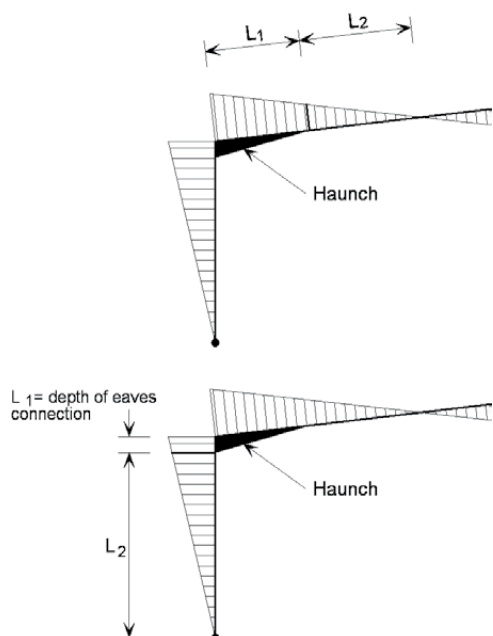

Figure 8: Lengths L_1 and L_2 used to check restraint member stiffness
- L_1 and L_2 are the distances each side of the plastic hinge to the eaves or points of contraflexure, as shown in Figure 8.
As an illustration, for a rafter (Figure 8), and a span of 35 m, a reasonable assumption is that $L_1 = 3.5$ m and $L_2 = 4$ m